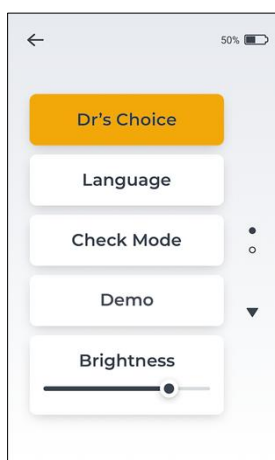
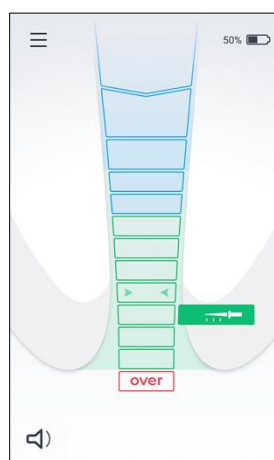

Fig. 12
Fig. 13
- Enter the Settings Menu and tap the Dr's Choice tab – see Fig. 12. "Dr's Choice" will turn orange while activated and the Dr's Choice apical line will appear on the home screen – see Fig. 13.
- To deactivate Dr's Choice apical line, go to settings menu and turn Dr's Choice off by tapping the Dr's Choice tab – see Fig. 12.